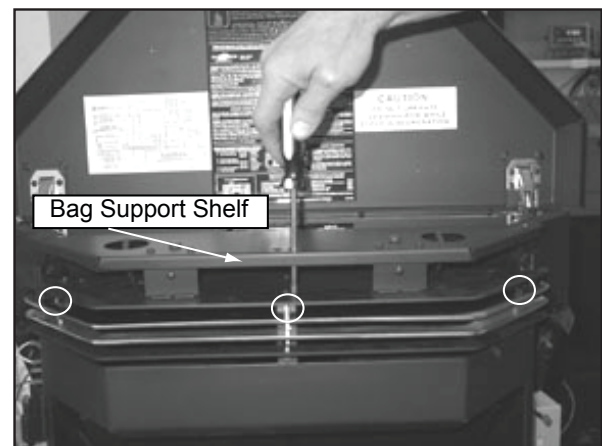

Figure 22.3
4. Use a Phillips screw driver to secure in place. It will be necessary to go through the hole in the bag support shelf to gain access to the screw. **Figure 22.3.**